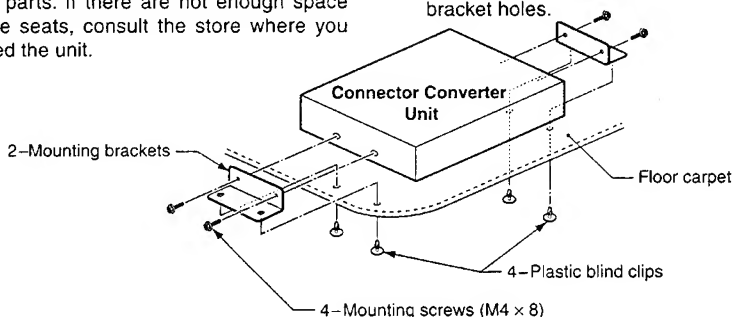

Figure 2
1. Attach the mounting brackets on the left and right side of the connector converter unit using the attached screws (M4×8). (Figure 2)